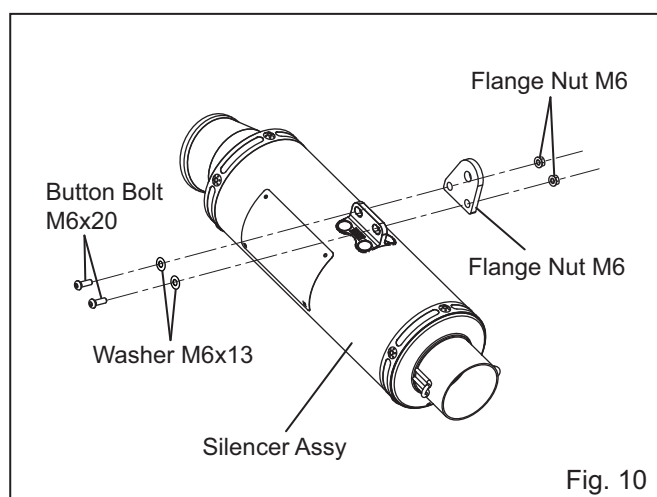

Fig. 10
- 8) Mount Silencer Bracket on Silencer Assy with 2 of each Button Bolt M6x20, Washer M6x13 and Flange Nut M6 (See Fig. 10). Tighten bolts by hand only at this stage.